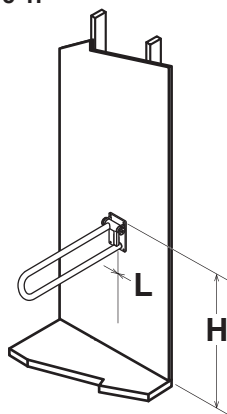

Figure 1b.
2. Find wall support studs & cut hole in wall board to expose wall studs as shown in **Figure 1b**. Expose half width of each stud to facilitate re-installation of wall board patch. Suggested hole size is height (A) of 18-24" (48-61cm) and width (B) corresponding to wall stud spacing. **NOTE: Take care for any utilities located in wall!**